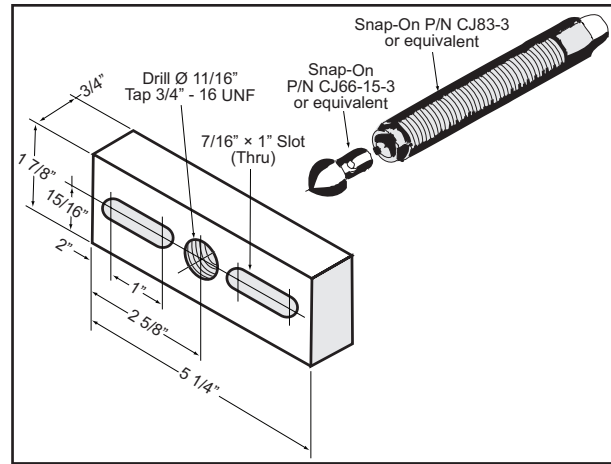

Figure 12 - Illustration of Bar Puller
7. Mark housing, end plates, rotors, and gear before proceeding with disassembly. There are two methods which can be used to disassemble the rest of the unit. Method "A" requires an arbor press and method "B" requires the use of bar or yoke pullers. See Figure 12 for a drawing of a bar type puller.